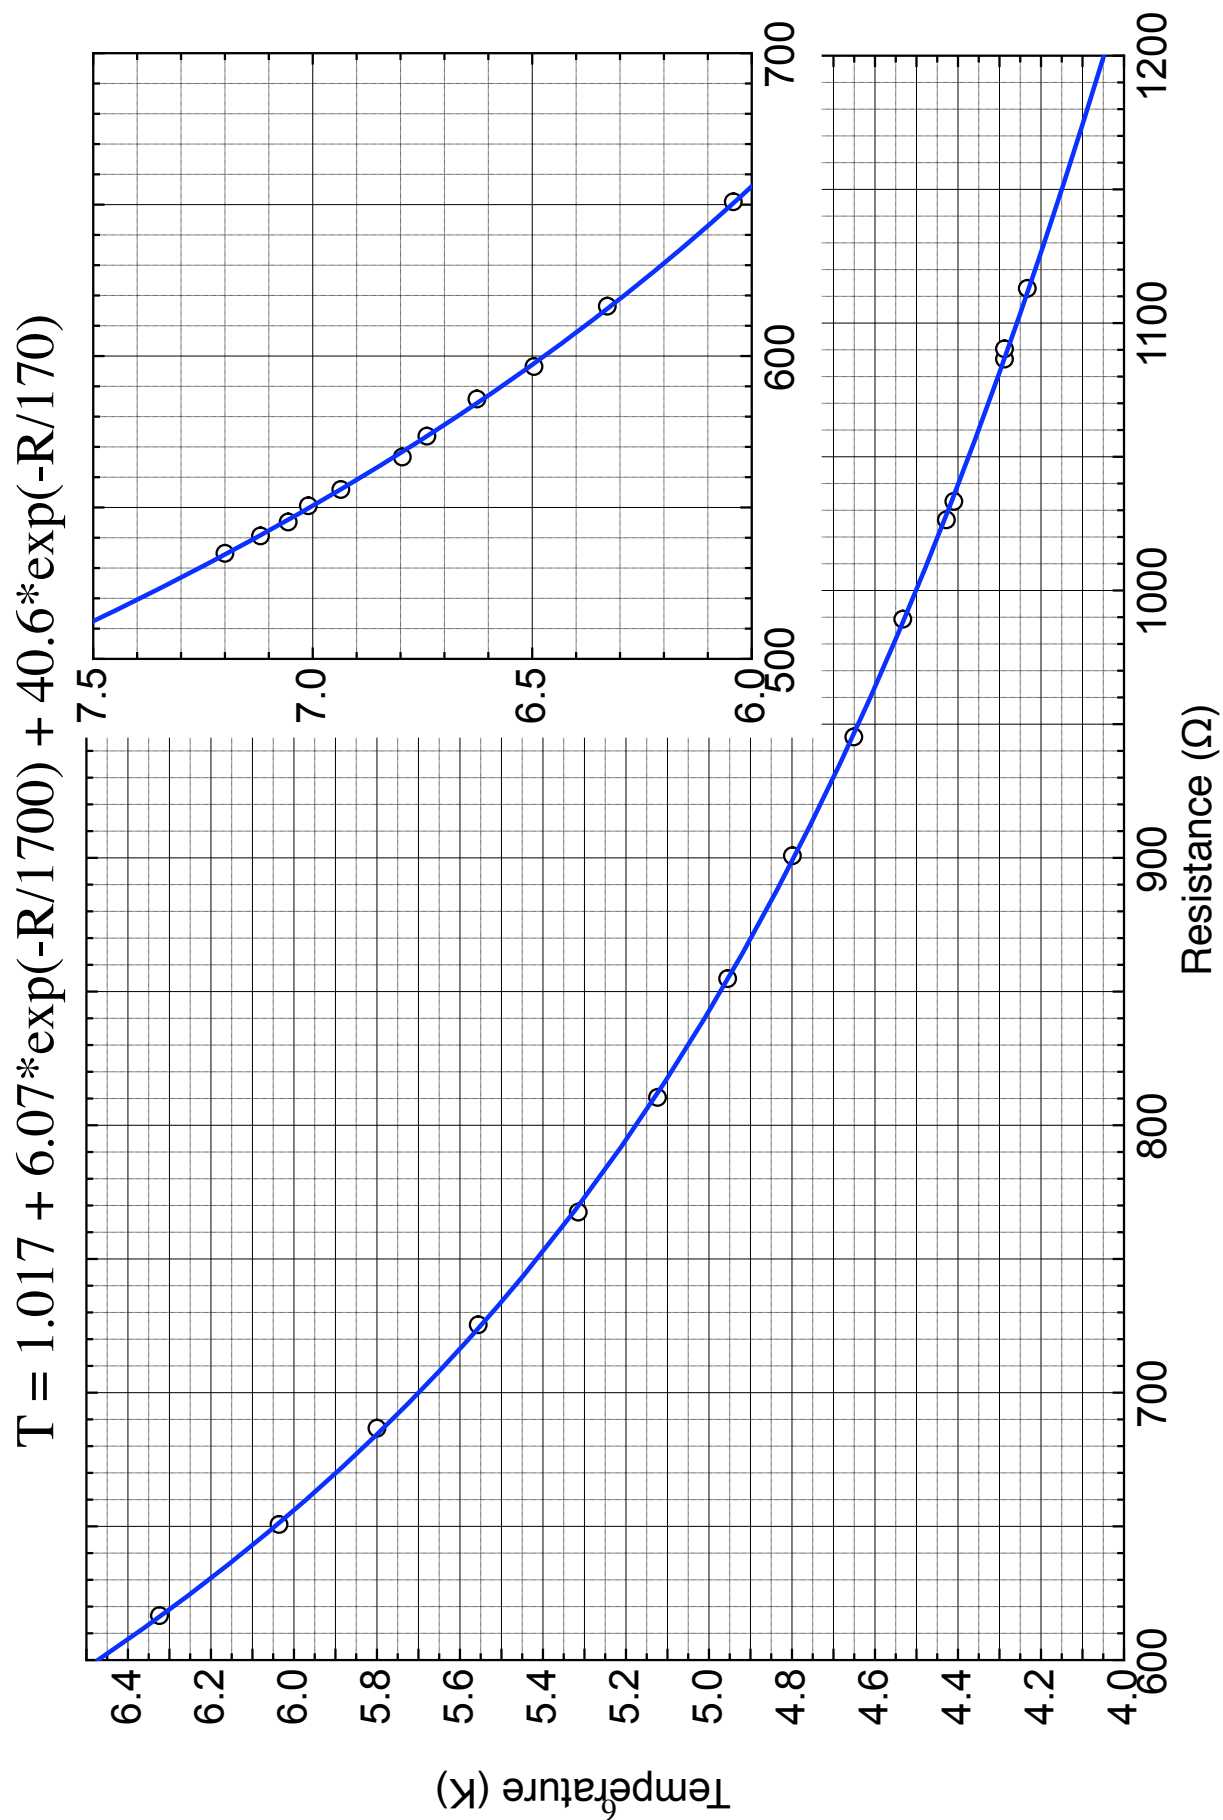

Figure 6: The calibration of the carbon thermometer.
During the measurements the entire coil system is placed in a bath of liquid ^4He ($T = 4.2 \text{ K}$). The sample is in good thermal contact with a copper holder, on which the sample heater (4) is wound. Using a current source, the sample can be heated by a few Kelvin. The temperature measurements are done with the help of a carbon resistor (5). The temperature can be determined from the measured resistance using the calibration curve (see Fig. 6).